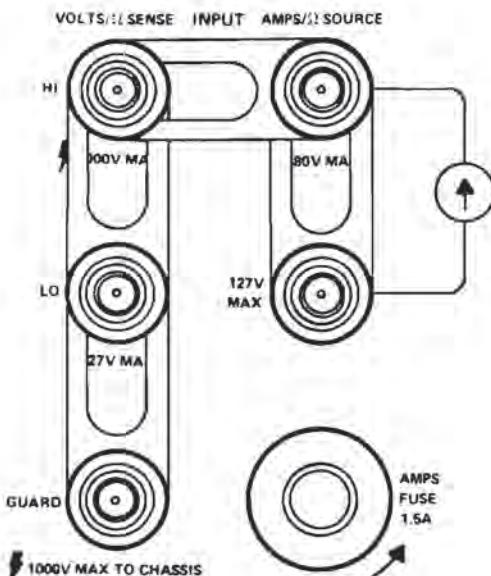

Figure 602-6. Input Terminal Shorting
- "4. Short the INPUT terminals as illustrated in Figure 602-6. Use the terminal shorting straps (provided with the instrument) or equivalent."